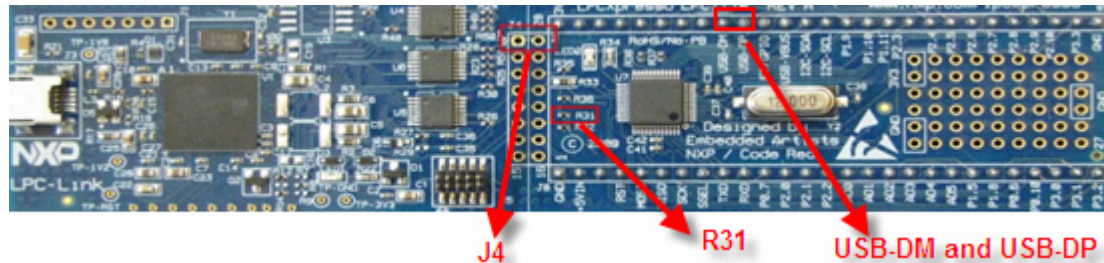
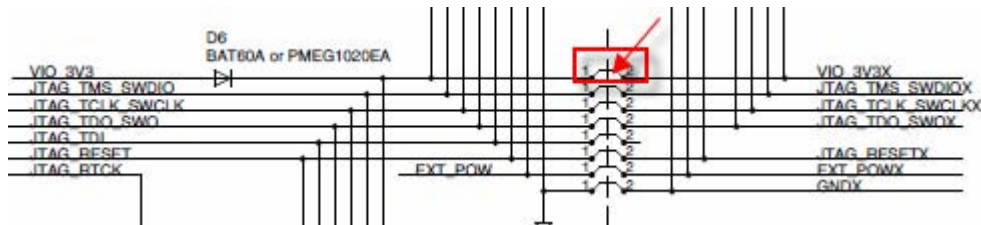

Fig 10. LPCXpresso LPC1343 Target board
Fig 11. LPCXpresso Target board Schematics
2. LPCXpresso Target Board (LPC1343) (see Fig 10).
3. LPCXpresso Base Board (see Fig 10).
1. The LPCXpresso target board includes an integrated JTAG debugger (LPC-Link). By default, the power is shared between the LPC1343 and LPC-Link. Trace connection between J4.1 and J4.2 needs to be cut to separate the power supply and thereafter, user can connect an external supply on J4.2 to measure the current using ammeter. The current should be measured at the VIO\_3V3X which supplies the power to the LPC1343. See Fig 10 below.
2. Since the software example is configuring all the pins as GPIO outputs and driving the GPIOs low, the external 12K pull-up resistor on  $\overline{\text{RESET}}$  /PIO0\_0 needs to be removed. See Fig 10 below.
3. USB pins (USB-DM and USB-DP) needs to be externally grounded. See Fig 10 and Fig 11 below.